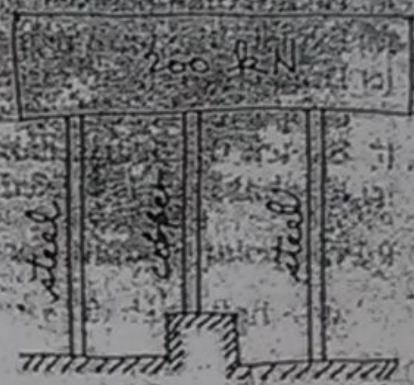

Fig 3
- Q.3 (a) What are the assumptions made in the theory of simple bending. (4)
- (b) (i) A T-beam has a cross-section as shown in fig 3 b(i). It has span of  $5 \text{ m}$ . If the maximum permissible stress is  $150 \text{ MPa}$ , find the maximum uniformly distributed load it can safely carry.
- (ii) If this section is used as a cantilever beam of  $2 \text{ m}$  span as shown in fig. 3 b(ii), find the point load which can be safely placed at its tip. (8.5)